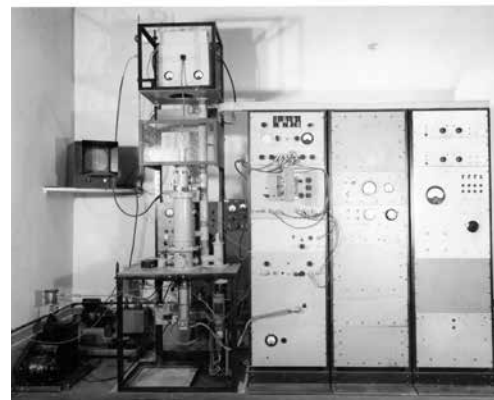

Figure 2: SEM1, The first SEM in CUEL (by permission of George Wilkinson (nephew))
- Dennis McMullan (1948-1952) - Built the first working SEM (SEM1) shown in Figure 2